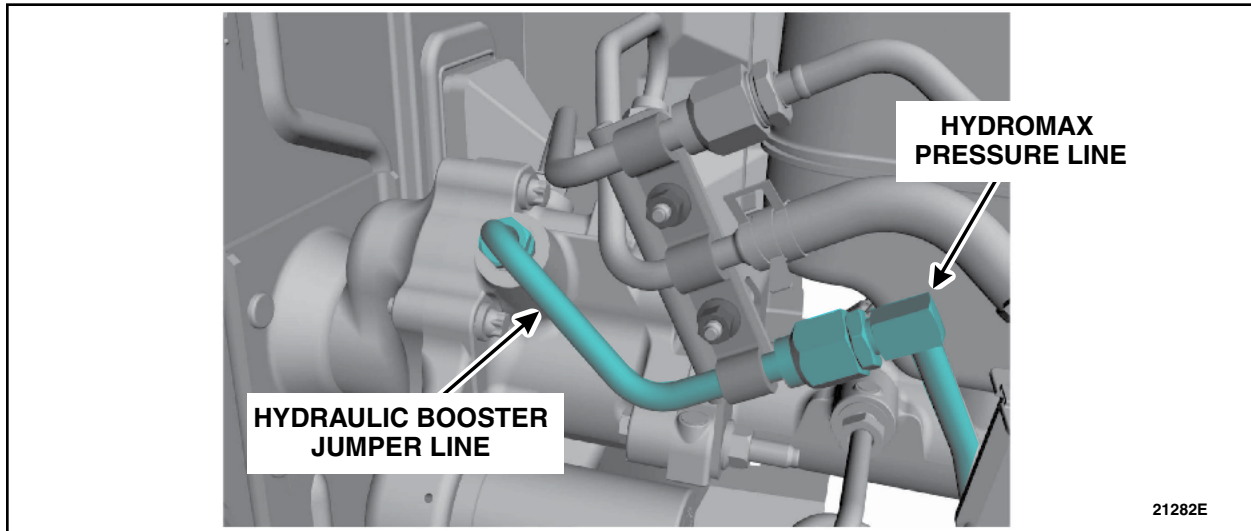

FIGURE 1A
1. Locate the power steering pump to Hydromax pressure line and inspect if the line is a newer design or original design. Note which Hydromax pressure line is equipped and then proceed to Step 2. See Figures 1a and 1b.
2. Locate the hydraulic booster jumper line and inspect if the line is a newer design or original design. Note which hydraulic booster jumper line is equipped and then proceed to Step 3. See Figures 1a, 2a, 2b.